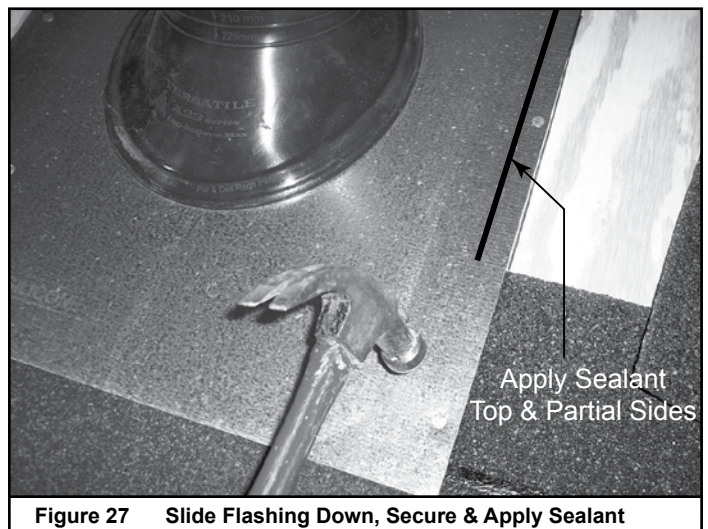
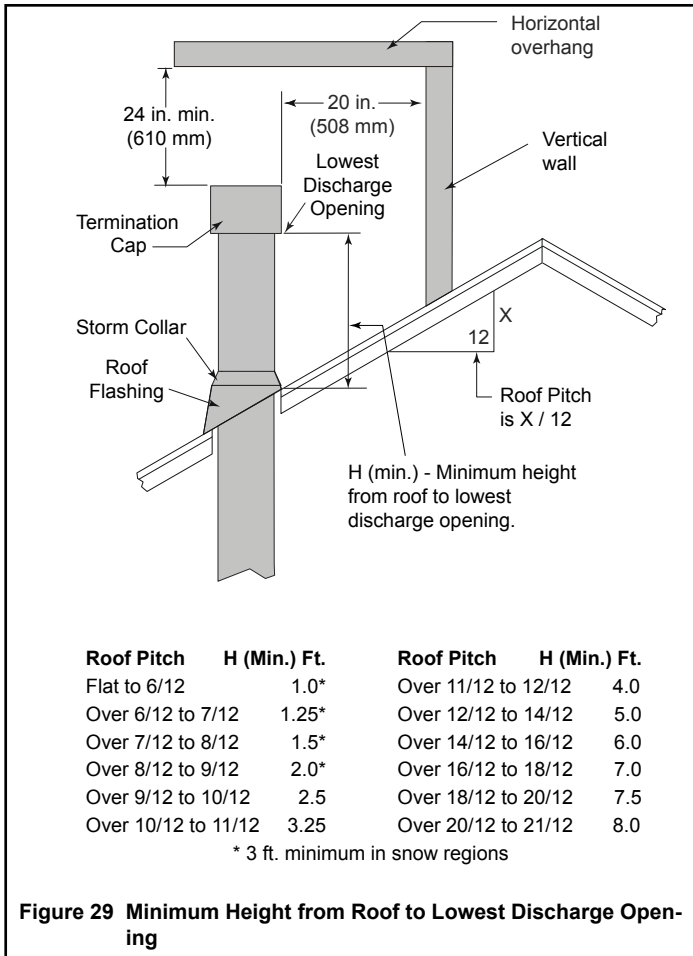

Figure 27 Slide Flashing Down, Secure & Apply Sealant
Figure 28 Installation Complete
- Apply silicone sealant on the top outside of the base plate on the sides and on top edge. See Figure 27. Install shingles, Apply sealant at the top edge of the rubber boot. See Figure 28.